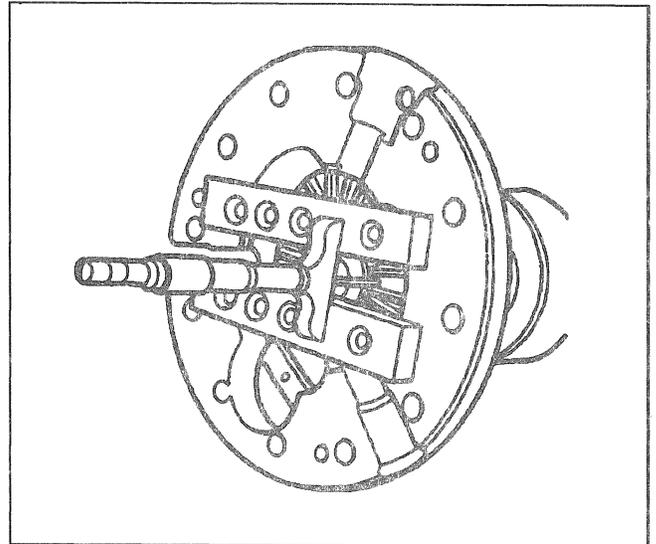

Figure 16—Side Gear Spread
↔ Install or Connect (Figures 16 and 17)
- The distance from the side gear face to the case half face (Figure 16).